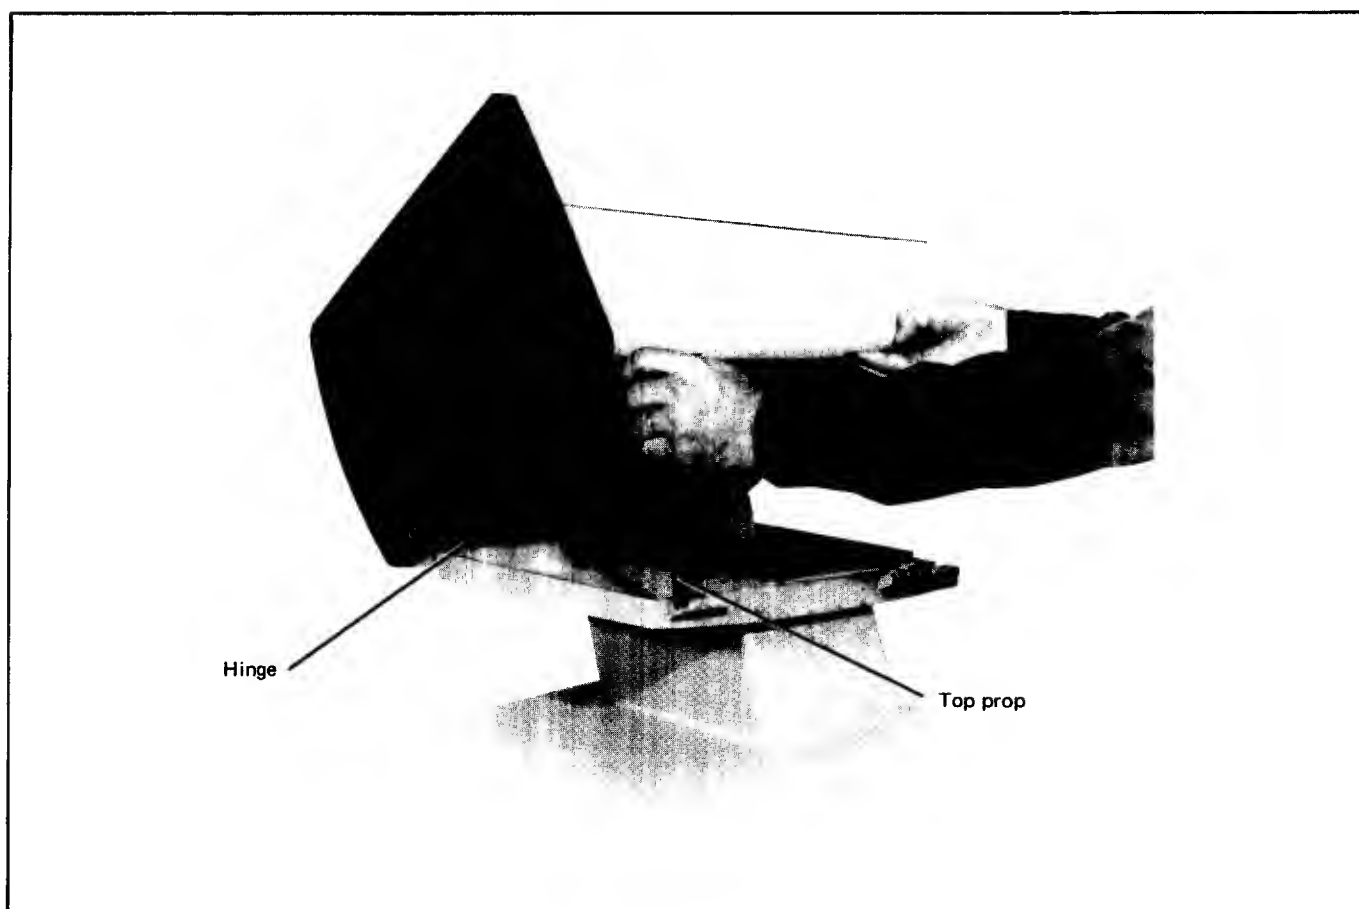

Figure 2-3 Freeing Mainframe From The Top Prop
7. Free the mainframe from the top prop by squeezing the upper end of the top prop (figure 2-3) while exerting an upward force on the left side of the mainframe.
8. With the mainframe free of the top prop, slide the mainframe forward an additional 1/4-inch until the right side clears the fixed hinges (figure 2-3) on the right side of the support; then lift the mainframe free of the support.
2. While guiding the top prop so it enters the top prop opening (figure 2-3) in the lower left edge of the mainframe, lower the left side of the mainframe until the top prop locks the mainframe in the half-open (service) position.